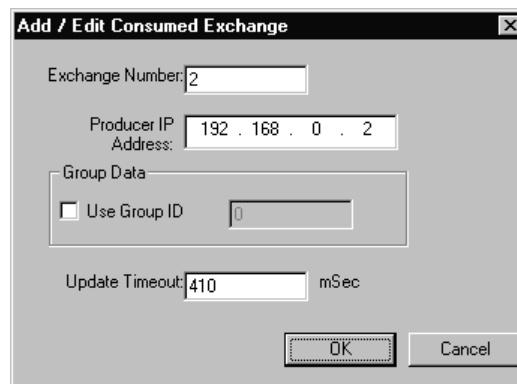

Figure 6.11 - Creating Consumed Exchange 2 - Node 1
- Now that Exchange 1 has been configured as a Produced Exchange for Node 1, it is time to configure Exchange 2 as a Consumed Exchange for Node 1. To do this, first select the **Consumed Exchanges** tab (Figure 6.2 [page 33]) and click on the **Add Exch** button to create a Consumed Exchange. Then fill in the parameters, as shown in Figure 6.11 below, and click **OK**.